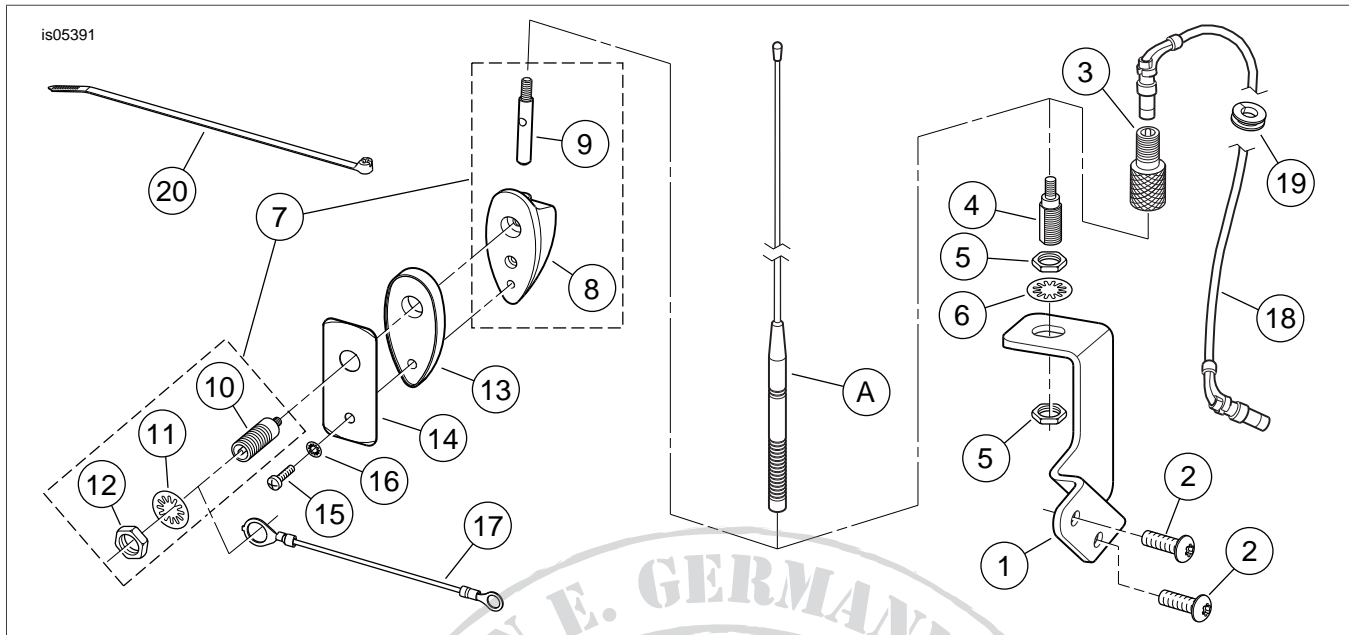

Figure 5. Service Parts, AM/FM Antenna Relocation Kit
1. See Figure 5. Remove the antenna mast (A) from the antenna base (4) on the original equipment (OE) antenna mounting bracket mounted to the lower portion of the left-side saddlebag rear support bracket.
See Figure 5. To allow for maximum thread engagement of the antenna/cable adapter (3), position the nuts (5) on the antenna base (4) to leave nearly all of the 1/2-20 thread **above** the upper nut.
1. Install one of the 1/2-20 nuts (5) from the kit onto the antenna base (4). Place the large internal tooth lockwasher (6) on the threads of the antenna base, and insert the base downward through the hole in the **new** antenna mounting bracket (1).
1. See Figure 5. Obtain the AM/FM antenna base assembly (7) from the kit. Remove the hex nut (12) and internal tooth lockwasher (11) from the plug assembly (10) on the base.
2. Assemble the base gasket (13) to the antenna base.
3. With the antenna mast stud (9) facing **up**, position the base assembly over the holes drilled earlier in the outside rear Tour-Pak wall. Be sure the plug assembly (10) goes through the larger (top) hole.
4. Place the antenna reinforcement plate (14) in position inside the Tour-Pak. Obtain the ground cable (17) from the kit, and place the large ring terminal over the plug assembly. Use the hex nut (12) and lockwasher (11) to attach the ground cable to the plug assembly, but do not fully tighten at this time.
6. Install the TORX® screw (15) and small lockwasher (16) through the smaller (bottom) hole of the antenna reinforcement plate into the antenna base. Tighten the screw securely. Tighten the hex nut (12) securely.
7. Thread the antenna mast assembly (1) onto the antenna base adapter (9).